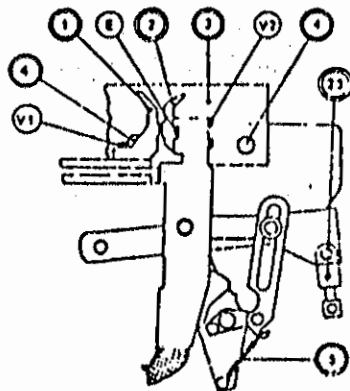

Fig. 26
- B. Arcing Contacts and Insulating Strips (Fig. 26).
1. *Arcing contacts.* With breaker in open position, loosen retaining bolts VI and remove contact by sliding forward. Replace with new contact leaving retaining bolt VI loose. Close breaker and loosen bolt V2 (two per contact) approximately 1.5 mm (0.059 inch) or until contact clears locating boss E, then remove by lifting upwards. Replace with new contact, checking to see that contact seats in locating boss before tightening bolt V2. With 0.9 mm (0.035 inch) feeler gauge, position contact (1) and tighten bolt VI.